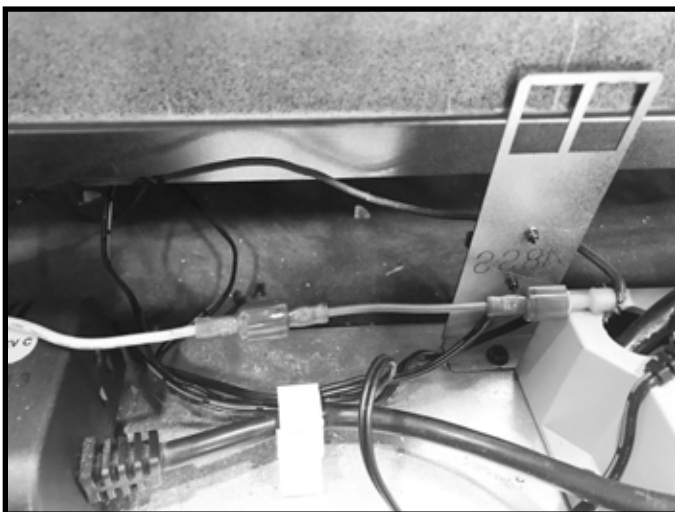

Figure 5.5 Jumper Wire Installed
11. Install jumper wire between the disconnected wires from Step 10. See Figure 5.5.